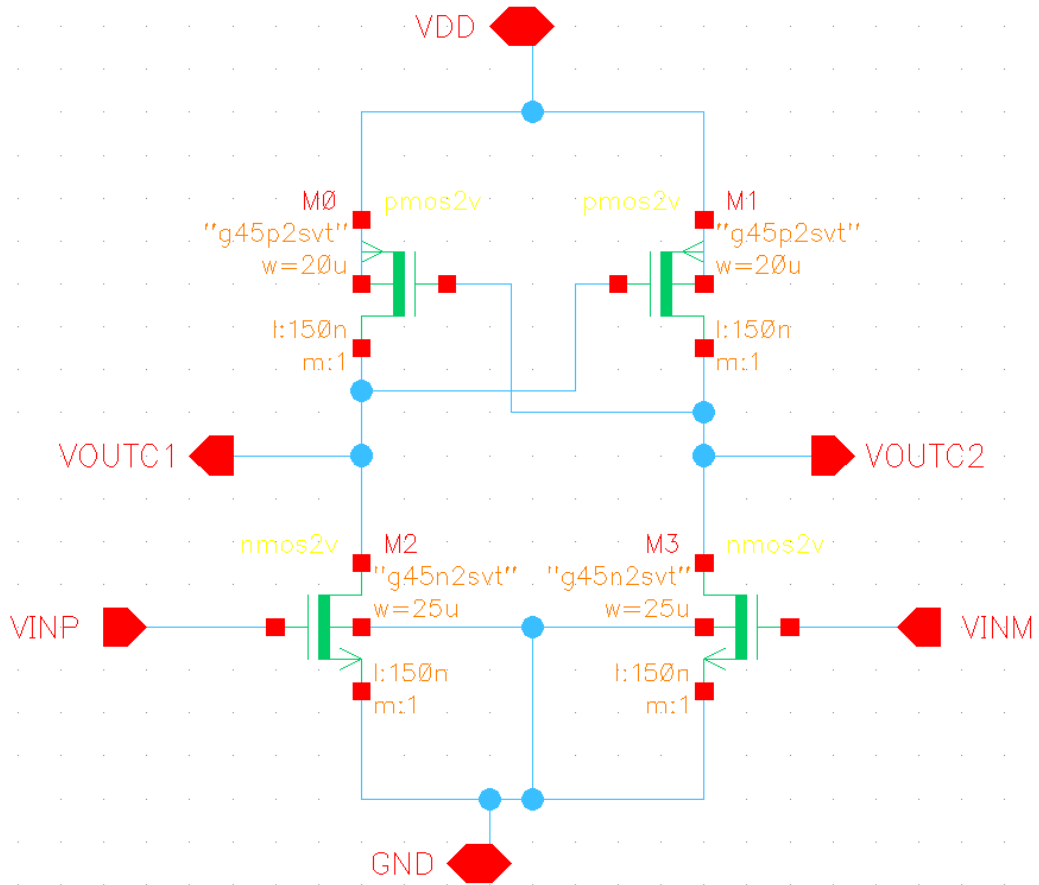

Figure 11: RS Latch schematic
- (d) **FFT, SNR ENOB:** To the circuit shown in Fig. 11, apply $V_{in1} = 0.75 + 0.25 \sin(2\pi f_{int})$ and $V_{in2} = 0.75 + 0.25 \sin(2\pi f_{int})$ with $f_{in} = m \cdot f_s / N$, $m = 511$, $N = 1024$ and plot FFT of the V_{out} . Annotate the fundamental, 2nd and 3rd harmonic components and calculate ENOB, SNR.